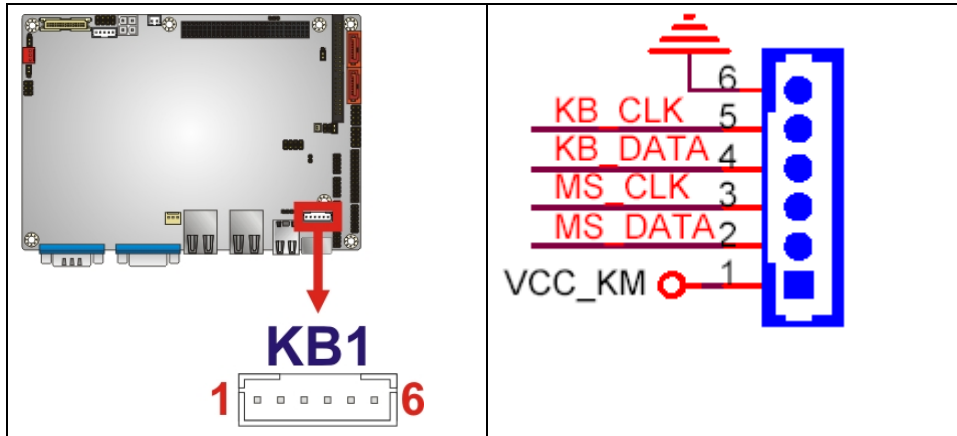

Figure 4-13: Keyboard/Mouse Connector Location
- CN Location:** See **Figure 4-13**